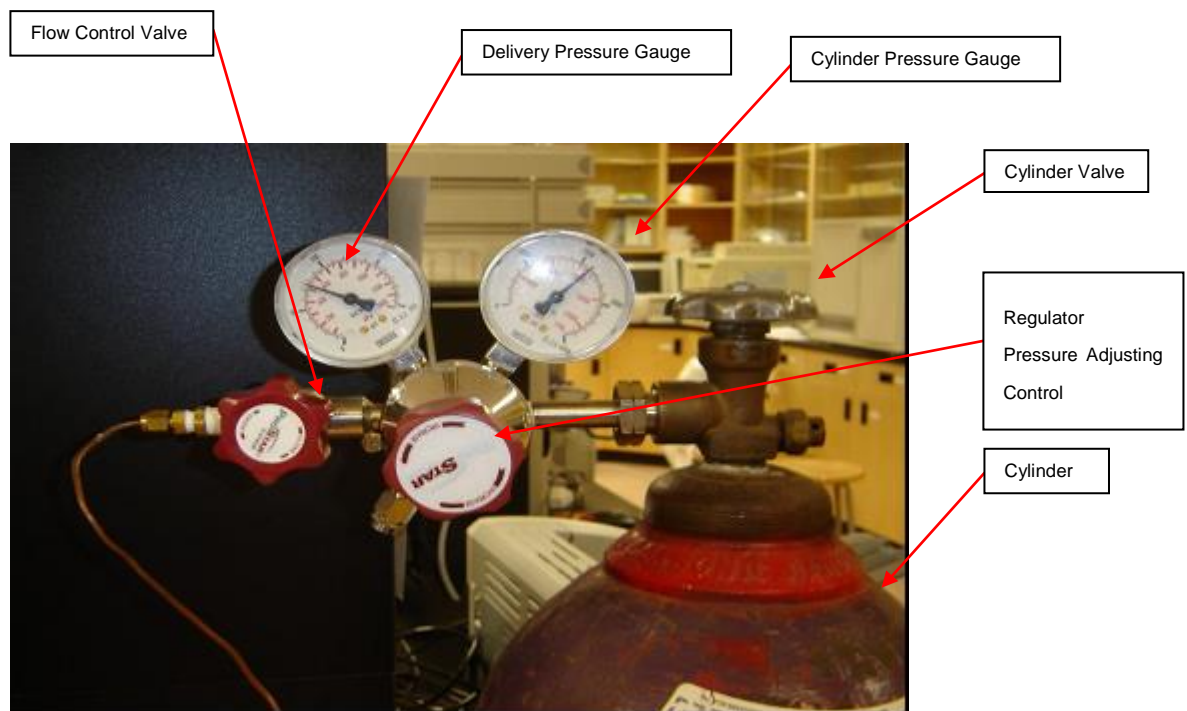

Figure1. Regulator attachment to compressed gas cylinder
- Attach the proper regulator to the cylinder of compressed gas (see Figure 1). Do not use Teflon™ tape on fittings when the seal is made by metal-to-metal contact. Under no circumstances is grease or oil to be used on regulator or cylinder valves because these substances may cause an adverse, dangerous reaction within the cylinder gas.